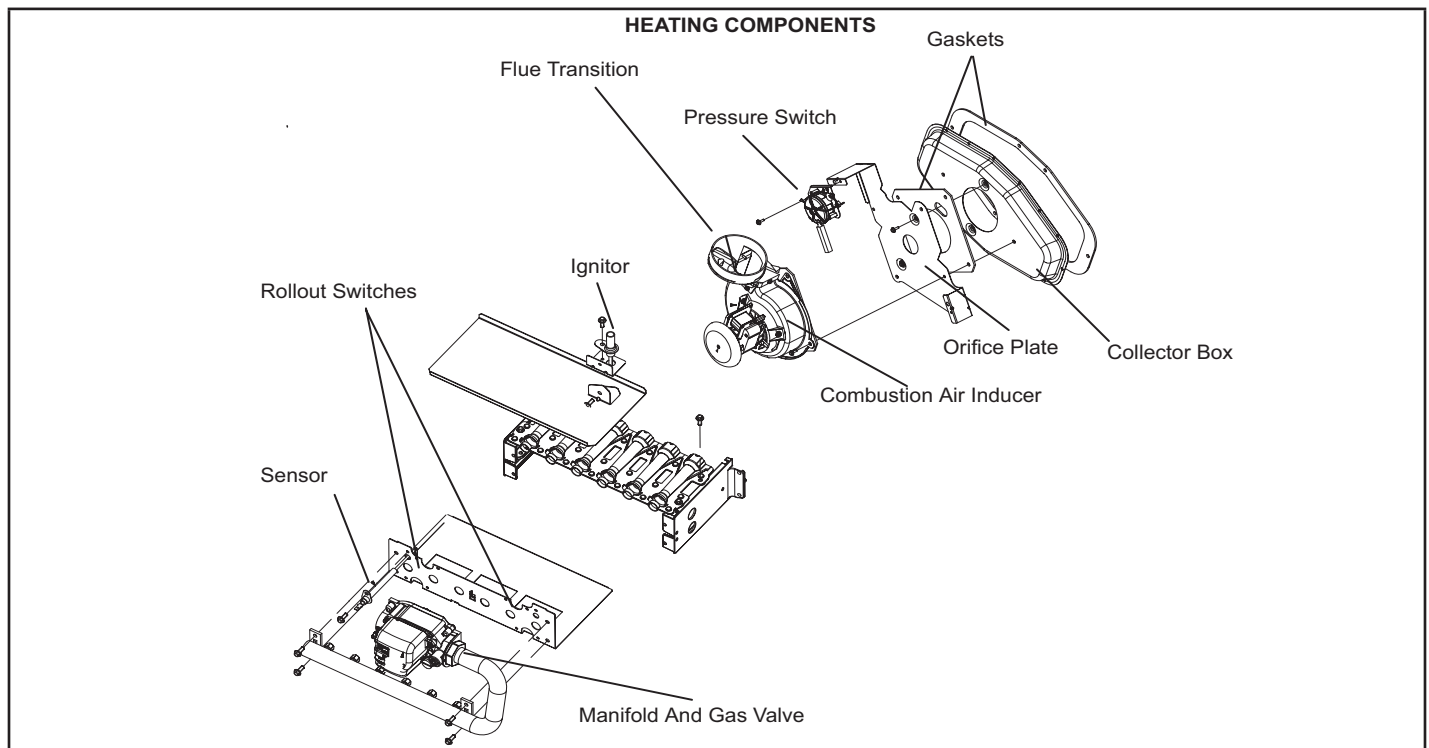

FIGURE 7
1. Flame Rollout Switches (FIGURE 7)
3. Flame Sensor (FIGURE 7)
4. Gas Valve (FIGURE 7)
6. Ignitor (FIGURE 7)